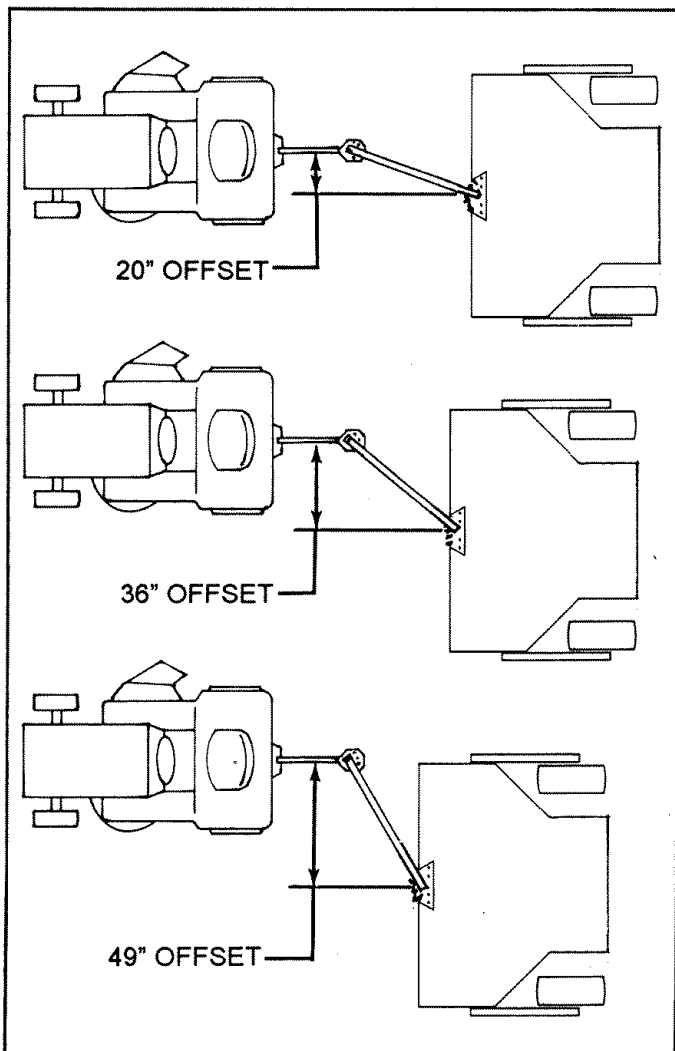

FIG. 7
- The adjustable tow hitch of this mower can be set in four positions, straight, approximately 20" offset, 36" offset and 49" offset to either side. (See Fig. 7)